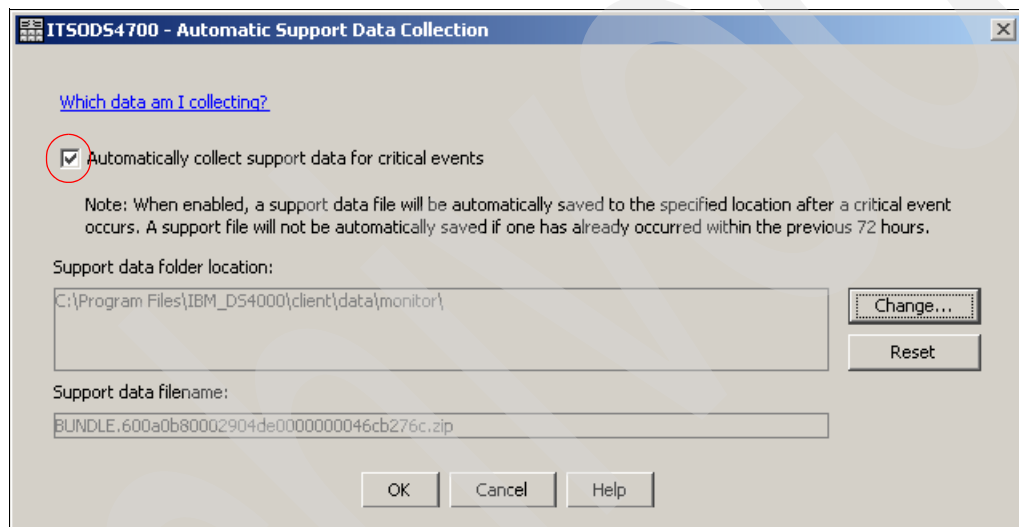

Figure 7-54 Enabling Automatic Data Collection
2. Check the check mark to enable the automatic data collection and specify the destination folder, as shown in Figure 7-54.